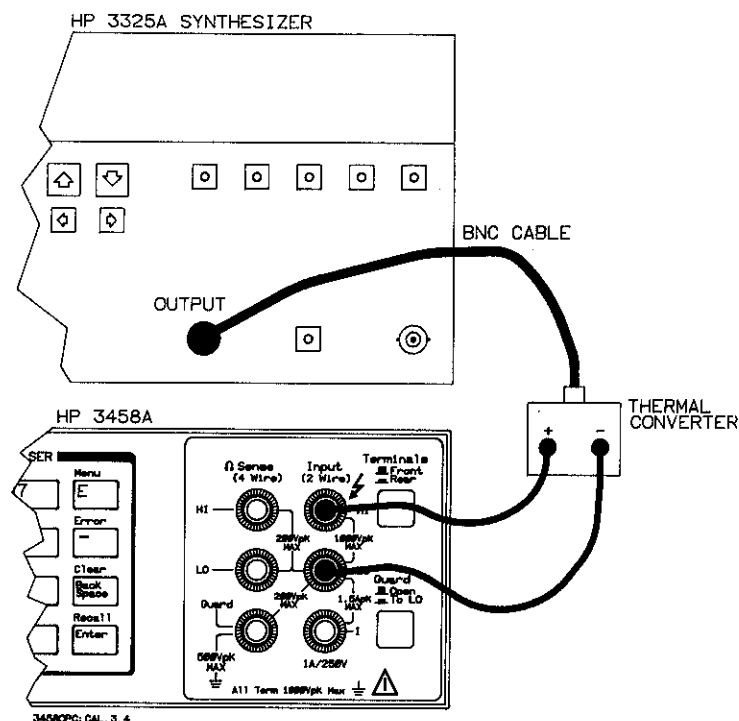

Figure 3-4. Characterizing the Adjustment Setup
3. Set the synthesizer to deliver a 3V rms sinewave at a frequency of 100 kHz. Connect the synthesizer, the 3V thermal converter, and the multimeter as shown in Figure 3-4. Record the exact DC voltage measured by the multimeter on Line A of the Adjustment Record.